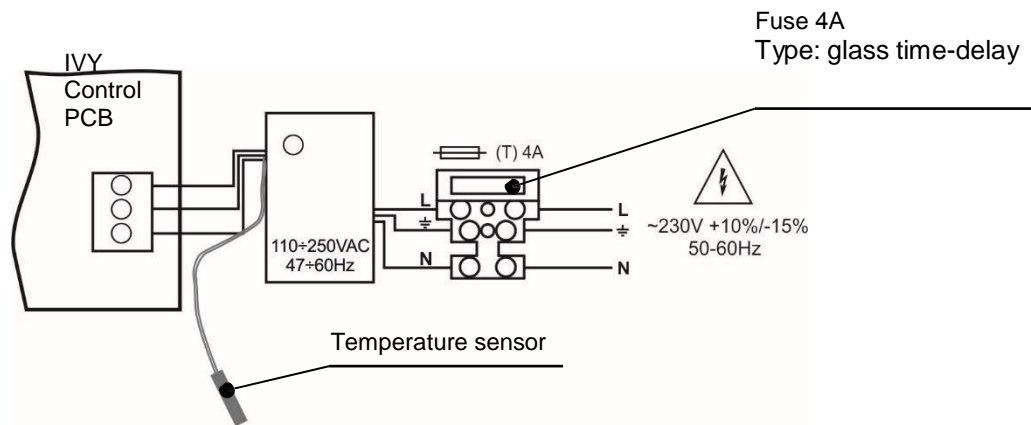

Figure 9 – Connecting the main power supply cable to the 230V terminal
- 3 – Terminal 230V for connection of the main power supply cable (see Figure 9)
The mains power supply of FOT-IVY panel is realized with connection of the main power cable to the 230V terminal, mounted in the metal box under the powers source. The connection between the 230V terminal and the main power source is done from the manufacturer. The connection of the main power supply cable to the 230V terminal is shown on Figure 9.